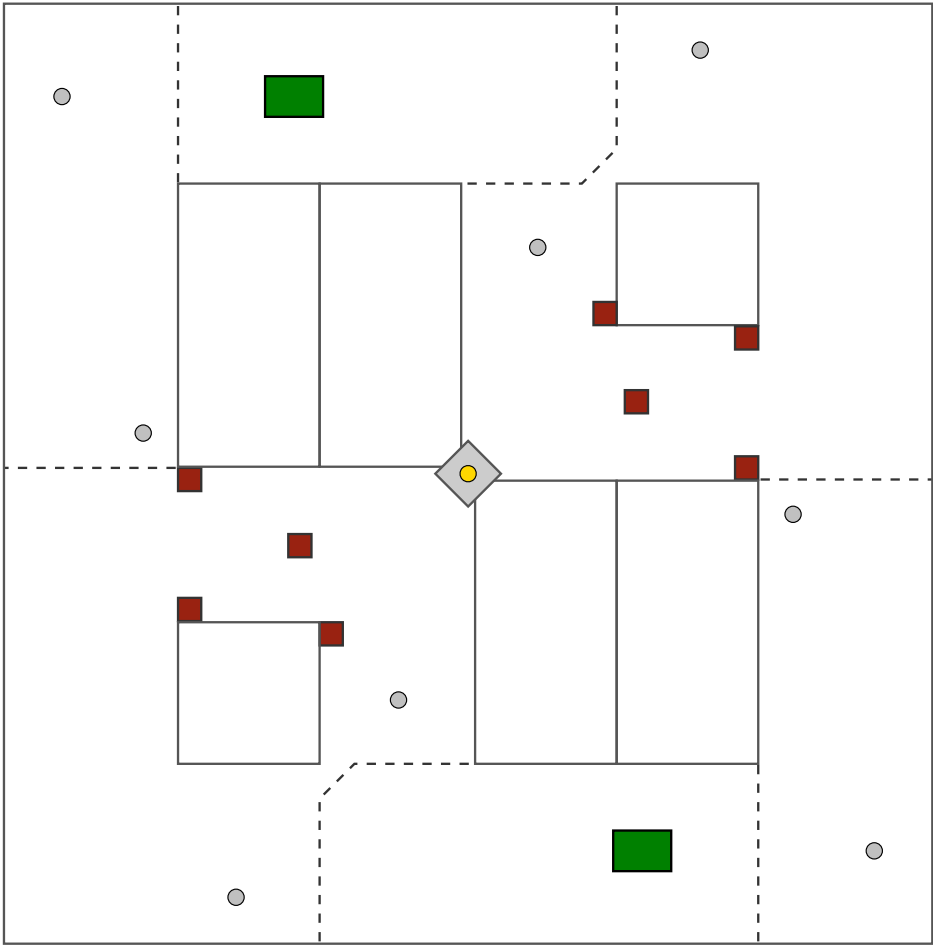

Figure 1: Layout zones and cans in the arena.
3. The layout of the arena is given in Figure 1. This figure is to scale.
7. The starting location of the robots is given in Figure 1. Teams are allowed to place their robot anywhere such that the entire robot is within 1 m of the starting point, which will be indicated on the floor of the arena. The starting zones are along the shorter (8 m) walls of the arena.
8. There is a short-cut through the central reservation, as specified in Figure 1. It is 1.34 m wide.
9. Within the short-cut there are fixed obstacles. These have a square cross-section, with the area touching the floor being a square with edges of length 200 mm. Their height is deliberately left unspecified here. Their layout is given in Figure 1.
2. The initial layout of tin cans in the arena is given in Figure 1.